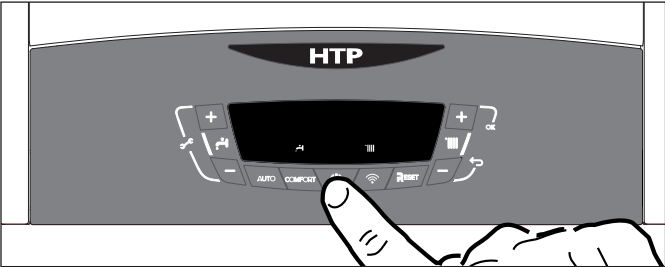

Figure 73 - Powering On the Boiler
C. Central Heating (CH) Temperature Adjustment
It is possible to set the central heating (CH) temperature by pressing the buttons described in Figure 73, Item 8.